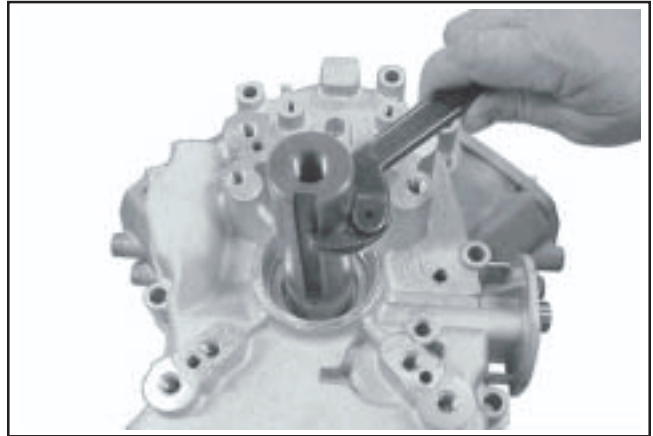

Figure 11-18. Rotating Crankshaft to Seat Closure Plate.
6. Install the closure plate on the crankcase. Carefully seat the camshaft and crankshaft into their mating bearings. Rotate the crankshaft to help engage the oil pump and governor gear meshes. See Figure 11-18.